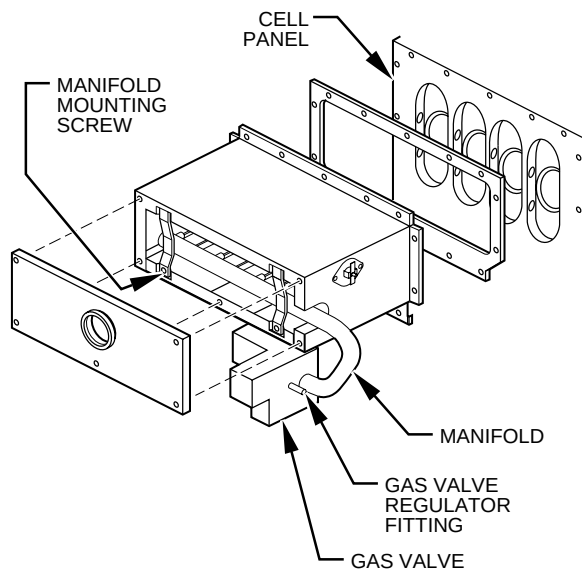

Fig. 5—Burner Box Assembly
7. Remove screws that secure manifold to burner box. (See Fig. 5.)
10. Remove screws attaching burner box to cell panel. (See Fig. 5.)
NOTE: Be sure burner box gasket is installed between burner box and cell panel. See Fig. 5. If gasket is damaged, replace it.